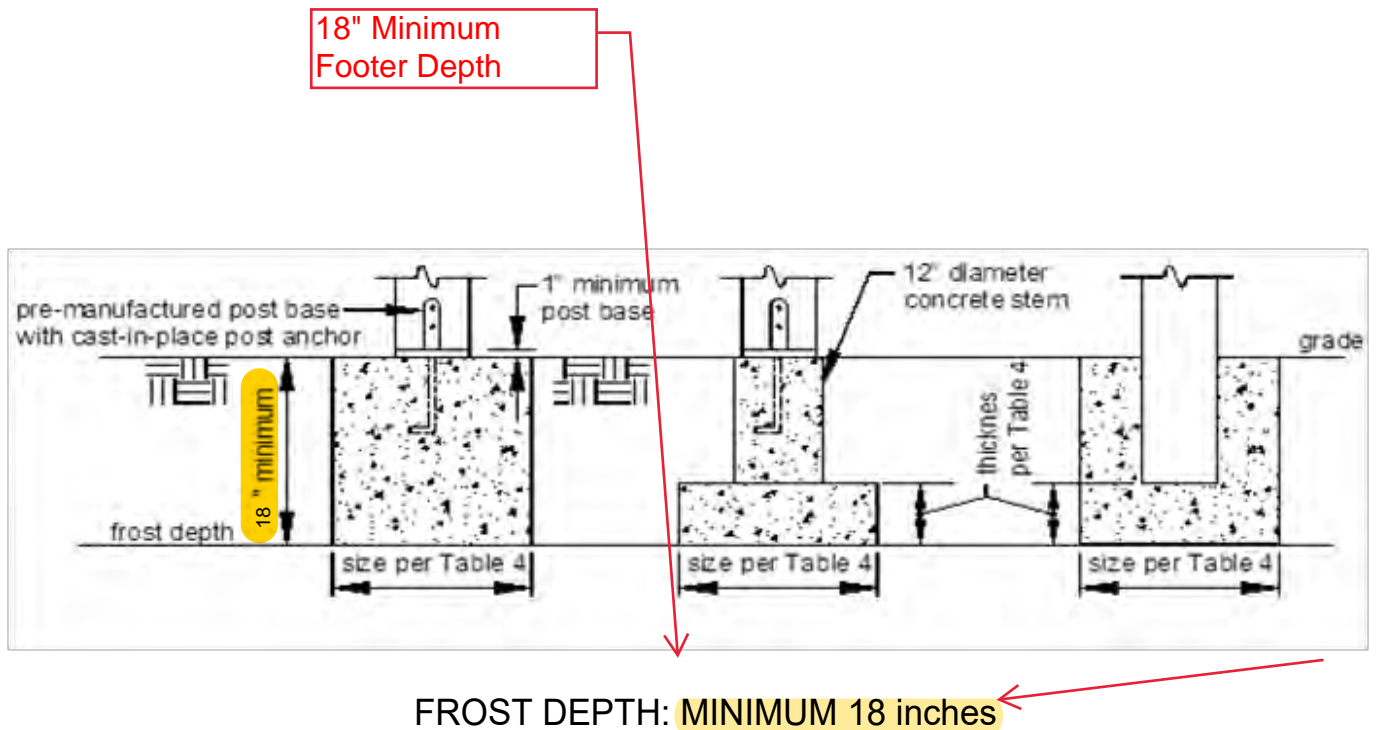

FIGURE 10: FOOTINGS
- Post attachment requirements shall be in accordance with FIGURE 10.